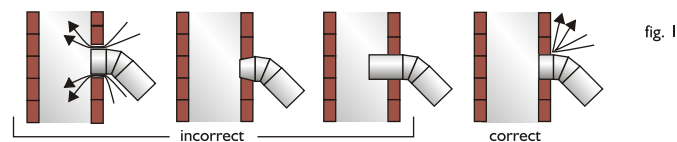

fig. 1
- The pipeline should not enter too deep into the chimney, but is just installed inside it (figure 1);